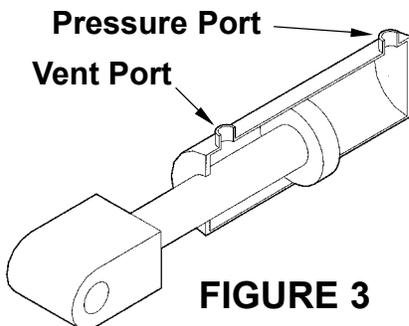

FIGURE 3
8. With the Platform on the ground, remove breather plug or vent line from vent port of cylinder. Raise the Platform to bed level. If hydraulic fluid streams from the Vent Port, the Piston Seals are worn. **(See Fig. 3)** Replace the Seals.